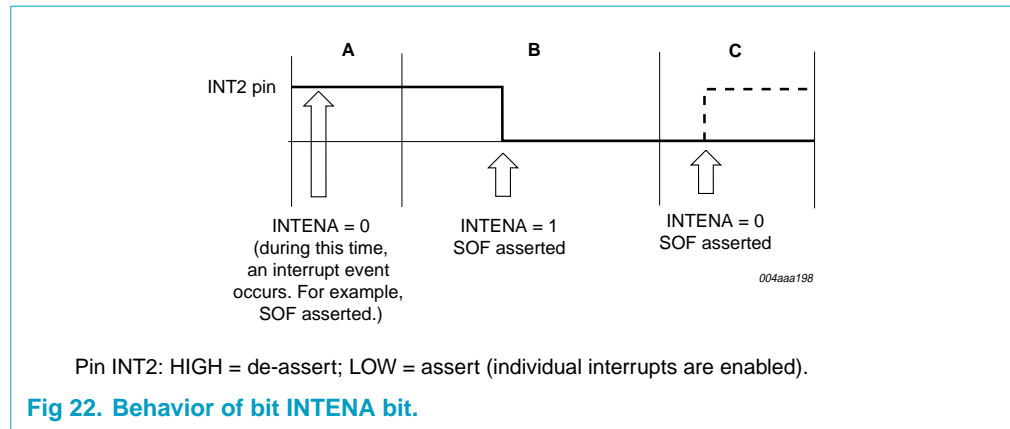

Fig 22. Behavior of bit INTENA bit.
**Interrupt control:** Bit INTENA in the DcMode register is a global enable/disable bit. The behavior of this bit is given in Figure 22.
Event A (see Figure 22): When an interrupt event occurs (for example, SOF interrupt) with bit INTENA set to logic 0, an interrupt will not be generated at pin INT2. However, it will be registered in the corresponding DcInterrupt register bit.
Event B (see Figure 22): When bit INTENA is set to logic 1, pin INT2 is asserted because bit SOF in the DcInterrupt register is already asserted.
Event C (see Figure 22): If the firmware sets bit INTENA to logic 0, pin INT2 will still be asserted. The bold dashed line shows the desired behavior of pin INT2.